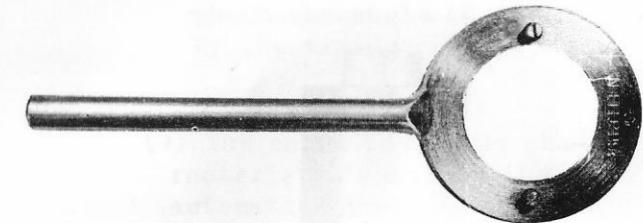

Fig. 9-73
(5) Position the injection timing control spring in place. In this operation, use a special wrench (EFEP 119C) (Fig. 9-73) and screw two bosses into the 6.2mm dia. holes of the driving flange, using this special wrench (Fig. 9-73). Then refit the washer and the nut, remove the spring supporter